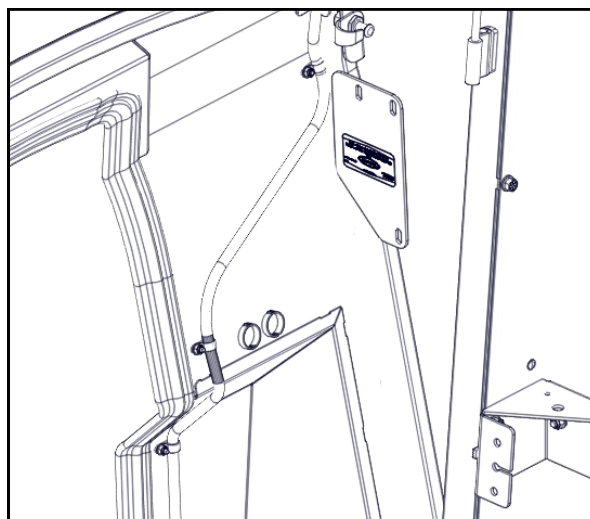

Fig. 17.2 Wire Loom Routing
**17.2** Per figure 17.2, secure switched power wiring harnesses (from Step 2) to the cowl using the supplied P-Clips, plastic washers and hardware.